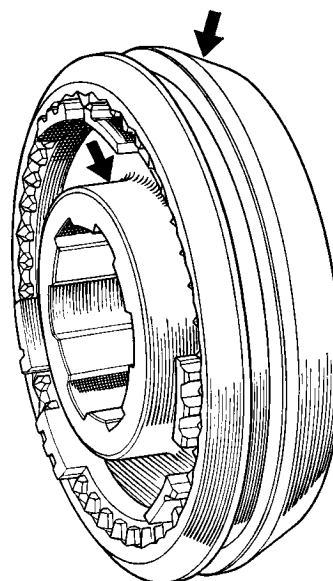

Fig. 55. Assembly of synchro hub.
1. The wide boss of the hub on the opposite side to the wide chamfer end of the sleeve (Fig. 55).